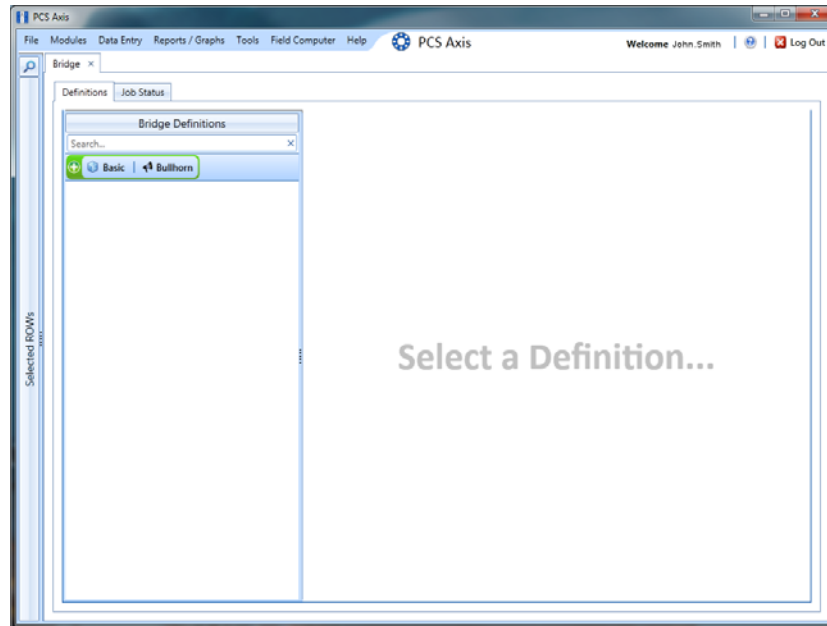

Figure 9-4. Bridge
- 2 Click **Tools** > **Bridge** to open the *Bridge* window (Figure 9-4).